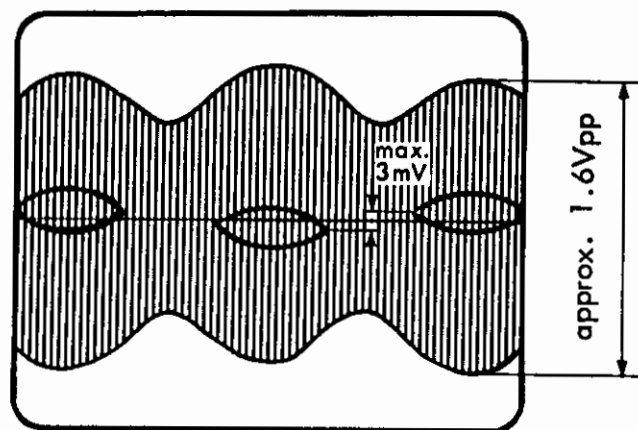

Fig. E4. Pilot phase.
7. Adjust with LEVEL until curves showing the symmetry around the zeroline, just appear as shown in Fig. E4. The total composite level should be approximately 20 %.
8. Adjust the difference between the zero point symmetry levels to less than 3 mV with R200, as shown in Fig. E4 below.